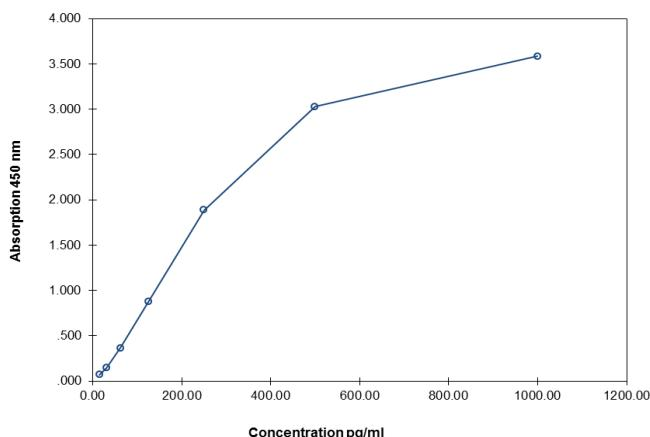

Fig. 8 Representative standard curve for human GRO α (CXCL1) ELISA. Human GRO α (CXCL1) was diluted in serial 2-fold steps in Sample Diluent.
- A representative standard curve is shown in Figure 8.